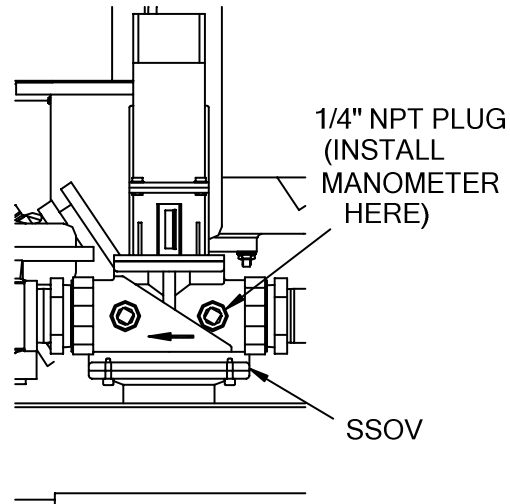

Figure 6.1
2. Install a 0-16" W.C. manometer in the gas pipe assembly below the low gas pressure switch. (See Fig. 6.1)